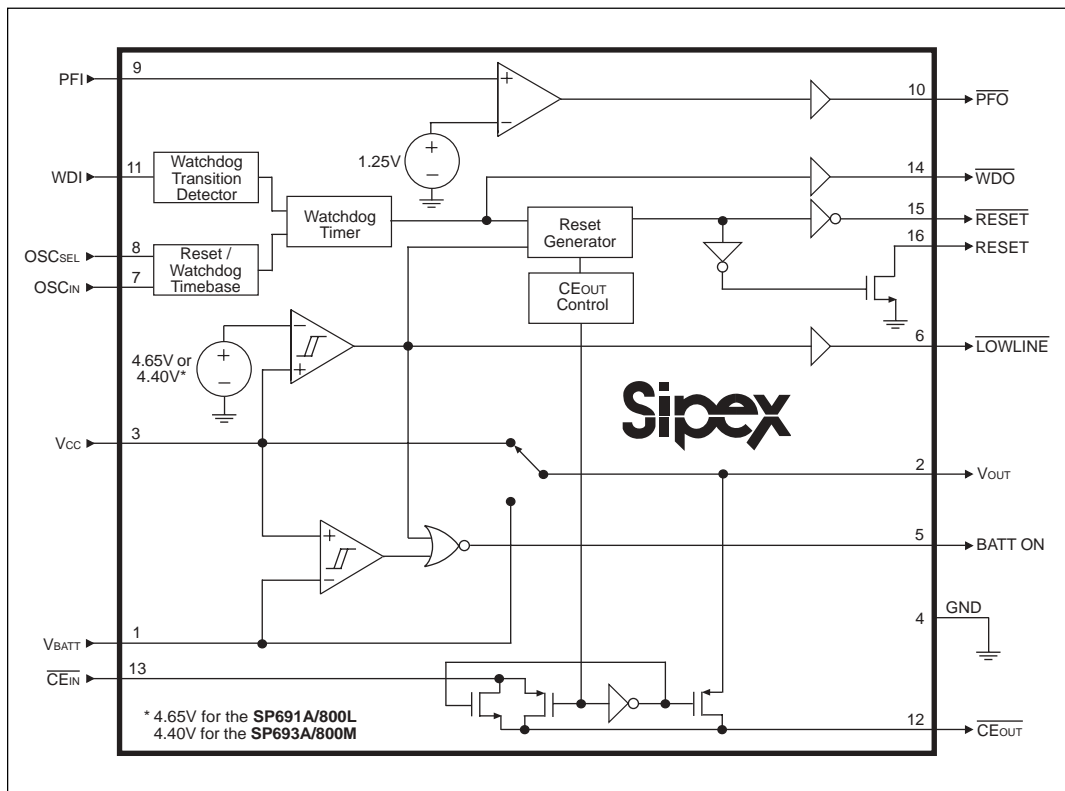

Figure 16. Internal Block Diagram of the SP691A/693A/800L/800M
The **SP691A/693A/800L/800M** devices provide internal gating of chip-enable (CE) signals, to prevent erroneous data from corrupting the CMOS RAM in the event of a power failure. During normal operation, the CE gate is enabled and passes all CE transitions. When reset is asserted, this path becomes disabled, preventing erroneous data from corrupting the CMOS RAM. The **SP691A/693A/800L/800M** devices use a series transmission gate from  $\overline{\text{CE}}_{\text{IN}}$  to  $\overline{\text{CE}}_{\text{OUT}}$ . Refer to *Figure 16*.
LOWLINE is the buffered output pin of the reset threshold comparator. Refer to *Figure 16*. LOWLINE typically sinks 3.2mA at 0.1V. For normal operation where  $V_{CC}$  is above the reset threshold, LOWLINE is pulled to  $V_{OUT}$ .